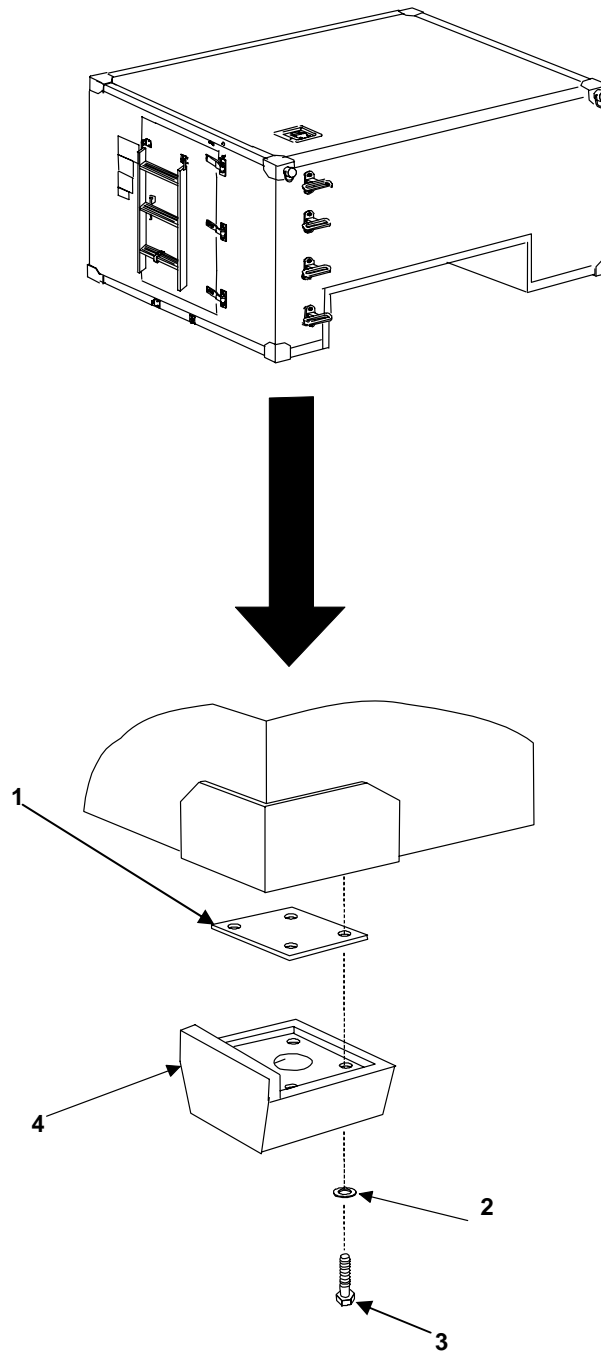

Figure 1. Shelter Pad Assembly.
1. Locate pad (figure 1, item 4) with plate, pad assembly corner (figure 1, item 1) to corner of shelter.
2. Apply a light coat of sealant to the threads of the four bolts (figure 1, item 3).
3. Install bolts (figure 1, item 3) and washers (figure 1, item 2) securing pad assembly to shelter.